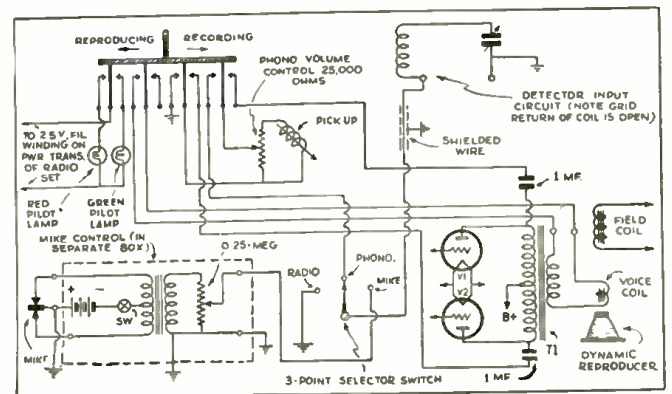

Fig. 1
**S**OMETHING a bit different in all-wave receivers has at last "come down the pike." This instrument, illustrated in Fig. A, and connected as shown in Fig. 1, is a super-sensitive all-wave superheterodyne; constructors will be glad to know that it is available in mounted-kit form; that is, with all components mounted, ready for wiring.